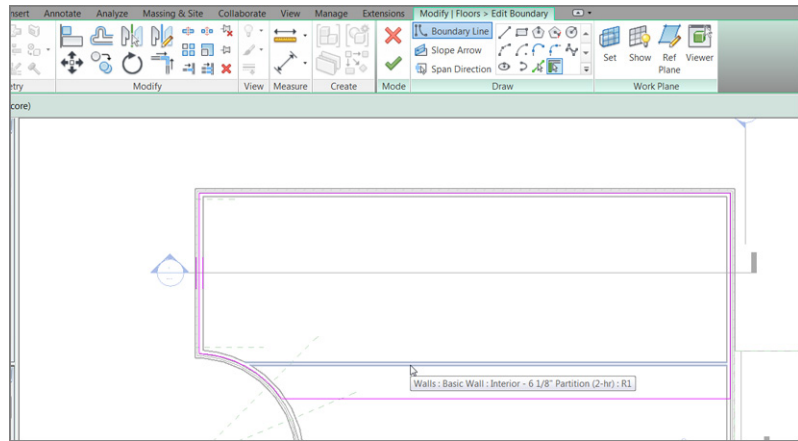

FIGURE 10.57: Adding the floor outline to the walls. Be sure to offset the line 5'-0" (1500mm) from the south wall. This will be the stair landing.
8. Pick the walls, and make sure the lines are set to the core centerline, as shown in Figure 10.57.
9. When picking the south wall, set Offset to 5'-0" (1500mm) in the Options bar (see Figure 10.57).